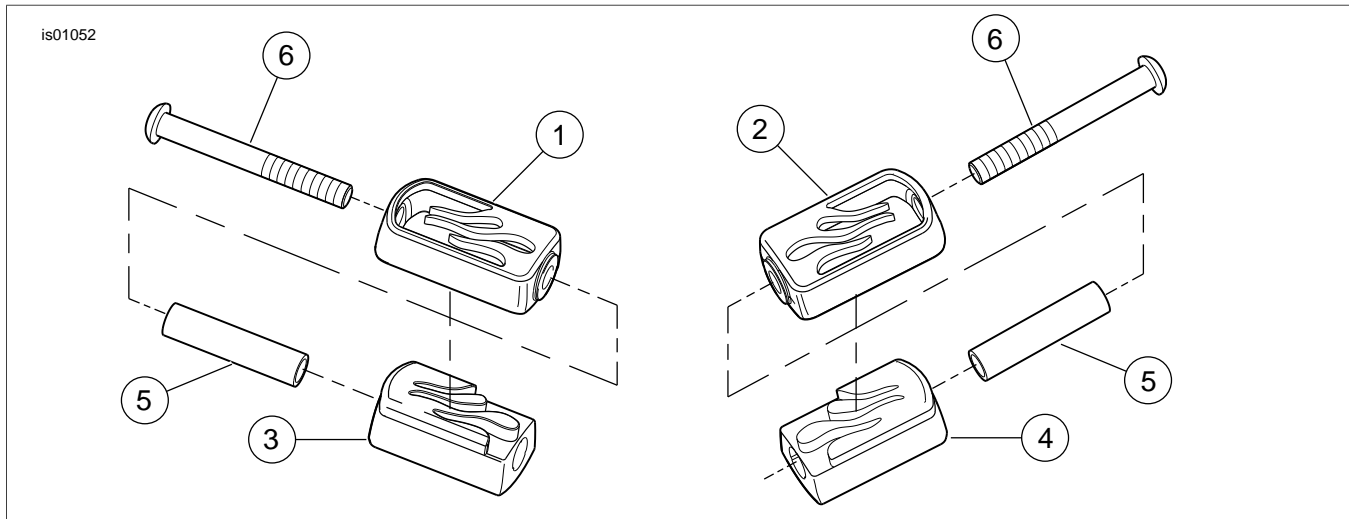

Figure 1. Service Parts: Flame Shifter Peg/Heel Rest Kit
See Figure 1 for kit contents. The heel rest and shifter peg rubber treads and spacer tubes will be installed in their corresponding chrome castings.
A Service Manual for your motorcycle is available at your Harley-Davidson Dealer. To enhance the flame pattern, orient the pegs as shown in Figure 1.
2. See Figure 1. Using screw (6), attach shifter peg casting (1, 2) to shift lever. Tighten screw to 16.3-19 Nm (12-14 ft-lbs).